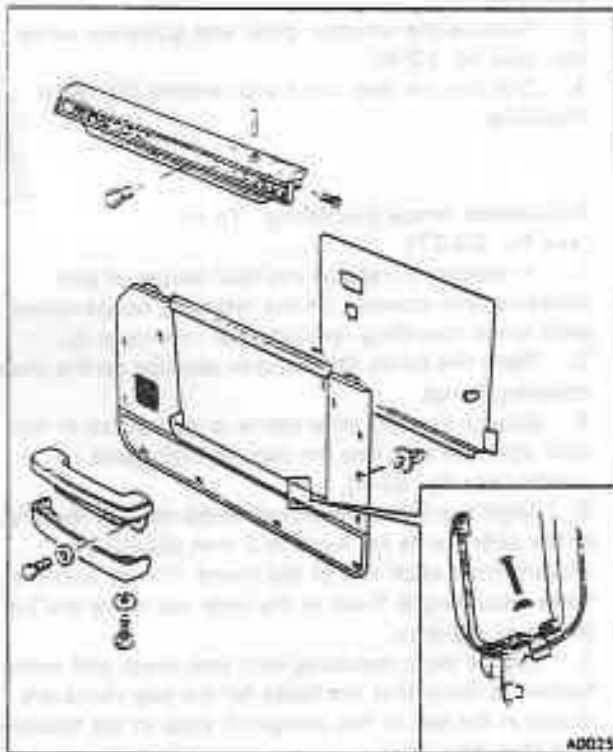

Fig. S3-28 Door trim
Door trim - To remove (see fig. S3-28)
Door trim - To fit (see fig. S3-28)
1. Remove the two M4 screws and cup washers situated inside the map pocket (see fig. S3-28).